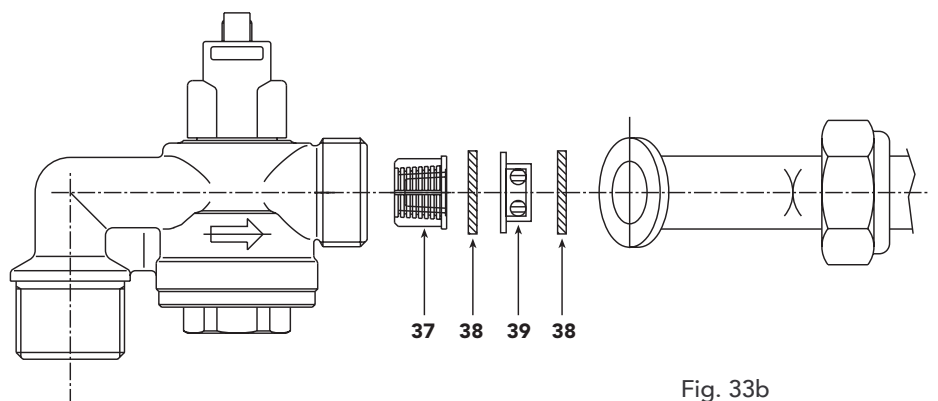

Fig. 33b
**Observe the correct position of components as shown in fig. 33b**